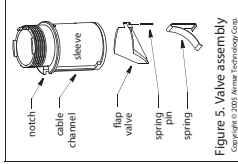

Figure 5. Valve assembly
CAUTION: Be careful to avoid cross threading the CAP nut. Should the valve fail, it will need to be removed for servicing. Follow the steps below. If the valve assembly is found to be not immediately available, the valve sleeve must be reinstalled in the multisensor housing for a watertight seal. Remove the flap valve, spring pin, and spring from this sleeve (Figure 5). Then reinstall the sleeve in the housing.
4. Clean, repair, or replace the valve assembly so the flap valve moves freely and seats against the sleeve (Figure 5).
7. Remove the safety wire from the multisensor. With the combined valve assembly and paddlewheel insert ready in one hand, remove the blanking plug. Slide the assembly into the multisensor housing with the arrow on the top pointing forward toward the bow. Be sure the cable fits into the cable channel and the notch in the sleeve fits into the key in the housing (Figure 5). A pushing twisting motion will locate the key.) Screw the CAP nut in place, being careful to avoid cross-threading. Hand-tighten only. Do not over-tighten.